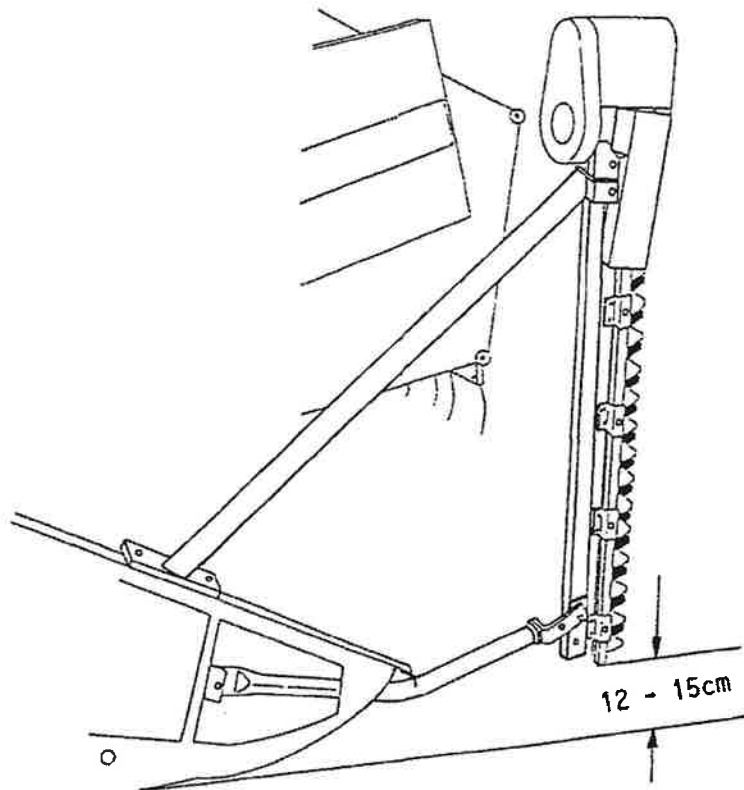

figure 1
The rape cutter may only be used for harvesting rape. It is designed to cut the intertwined branches of the rape plants. To do this it must be mounted on the side plate of the header of the combine harvester cutting table (see figure 1). Any other usage shall be deemed improper. The manufacturer cannot be held liable for any damage resulting from such usage; the risk for this is borne exclusively by the user.
On the RT 135 the crank guard (figure1, item 1) can be modified in such a way that it can be used for rape cutters mounted on the left-hand side or the right-hand side.